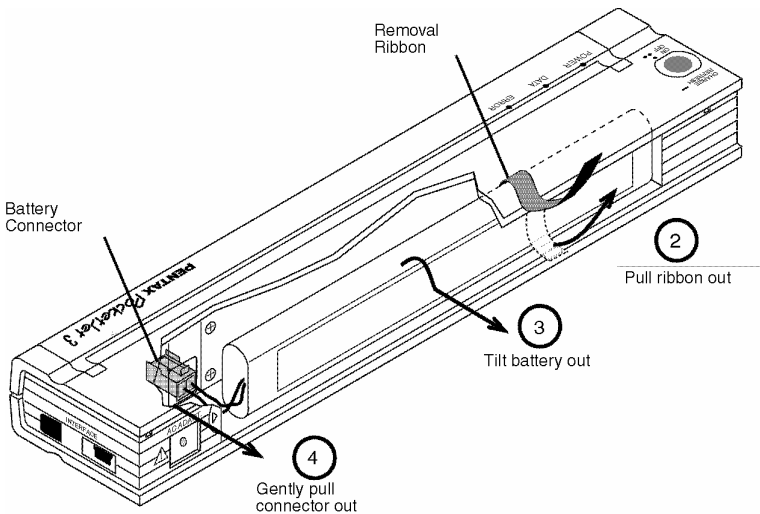

FIGURE 13. Instructions for removing the battery
2. Pull out on the battery removal ribbon as shown in Figure 13 until the battery starts to tilt out of its compartment.